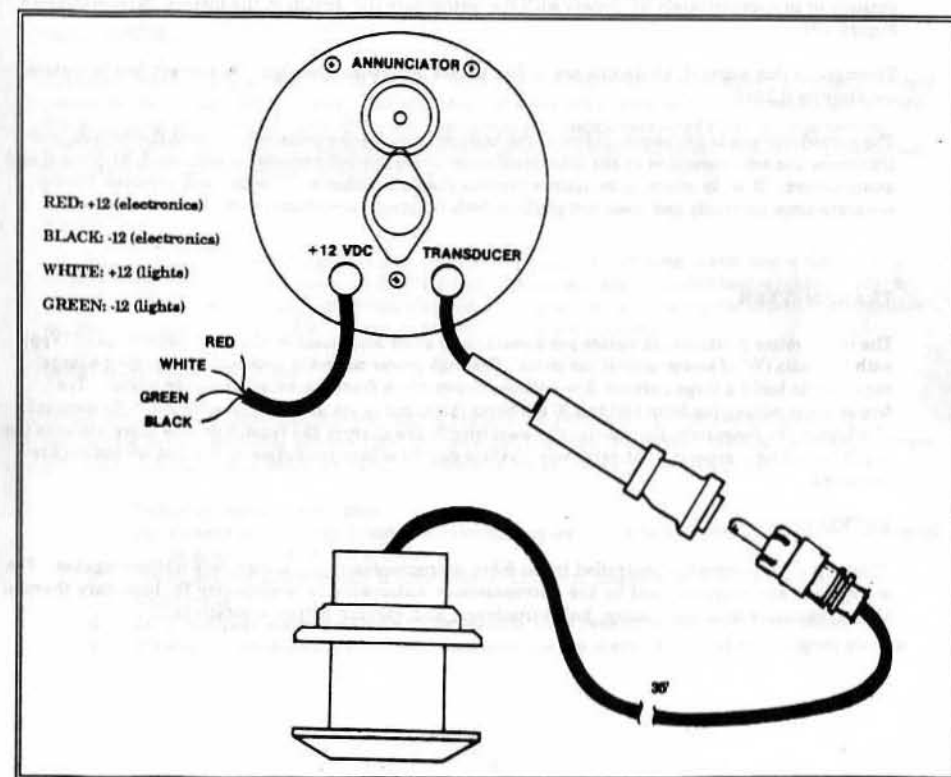

Figure 9. Electrical Connections
- h. Connect cables as shown in Figure 9.